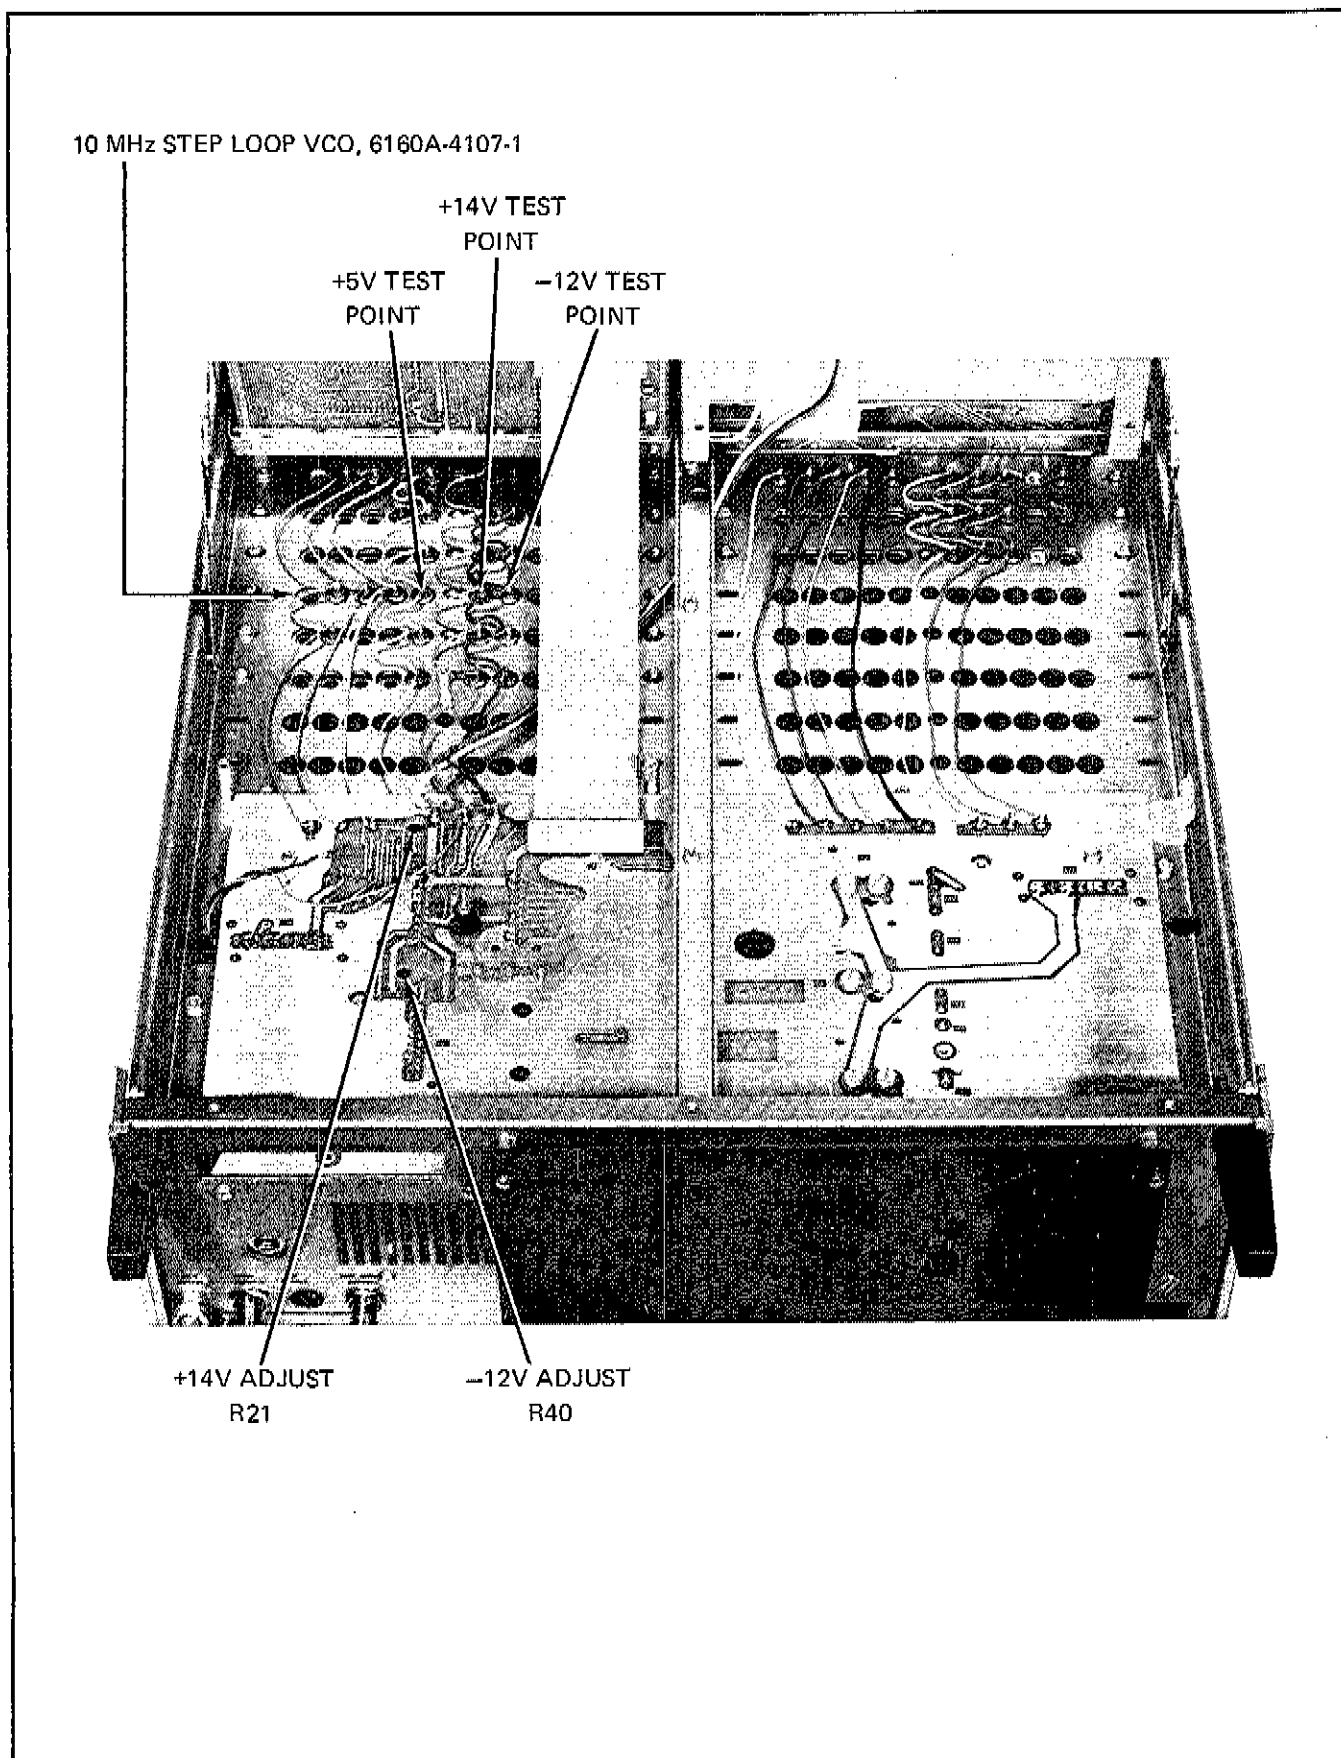

Figure 4-3. POWER SUPPLY TEST POINTS AND ADJUSTMENTS.
- c. Refer to Figure 4-3 and connect DVM between synthesizer chassis and –12V connector on the 10 MHz Step Loop module, 6160A-4107-1. DVM should indicate –12 Vdc \pm 3 mV. Adjust R40 if necessary (See Figure 4-3 for location).
- d. Refer to Figure 4-3 and connect DVM between chassis and +14V connector on 10 MHz Step Loop module, 6160A-4107-1. DVM should indicate +14 Vdc \pm 3 mV. Adjust R21 if necessary (See Figure 4-3 for location).
- e. Refer to Figure 4-3 and connect DVM between chassis and +5V connector on 10 MHz Step Loop module, 6160A-4107-1. Check DVM indication to be +5 Vdc \pm 15 mV.
- Refer to Figure 4-3 and connect DVM between synthesizer chassis and –12V connector on the 10 MHz Step Loop module, 6160A-4107-1. DVM should indicate –12 Vdc \pm 3 mV. Adjust R40 if necessary (See Figure 4-3 for location).
- Refer to Figure 4-3 and connect DVM between chassis and +14V connector on 10 MHz Step Loop module, 6160A-4107-1. DVM should indicate +14 Vdc \pm 3 mV. Adjust R21 if necessary (See Figure 4-3 for location).
- Refer to Figure 4-3 and connect DVM between chassis and +5V connector on 10 MHz Step Loop module, 6160A-4107-1. Check DVM indication to be +5 Vdc \pm 15 mV.